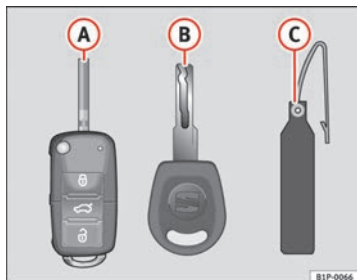

Fig. 41 Set of keys
- a remote control key ⇒ fig. 41 **A**